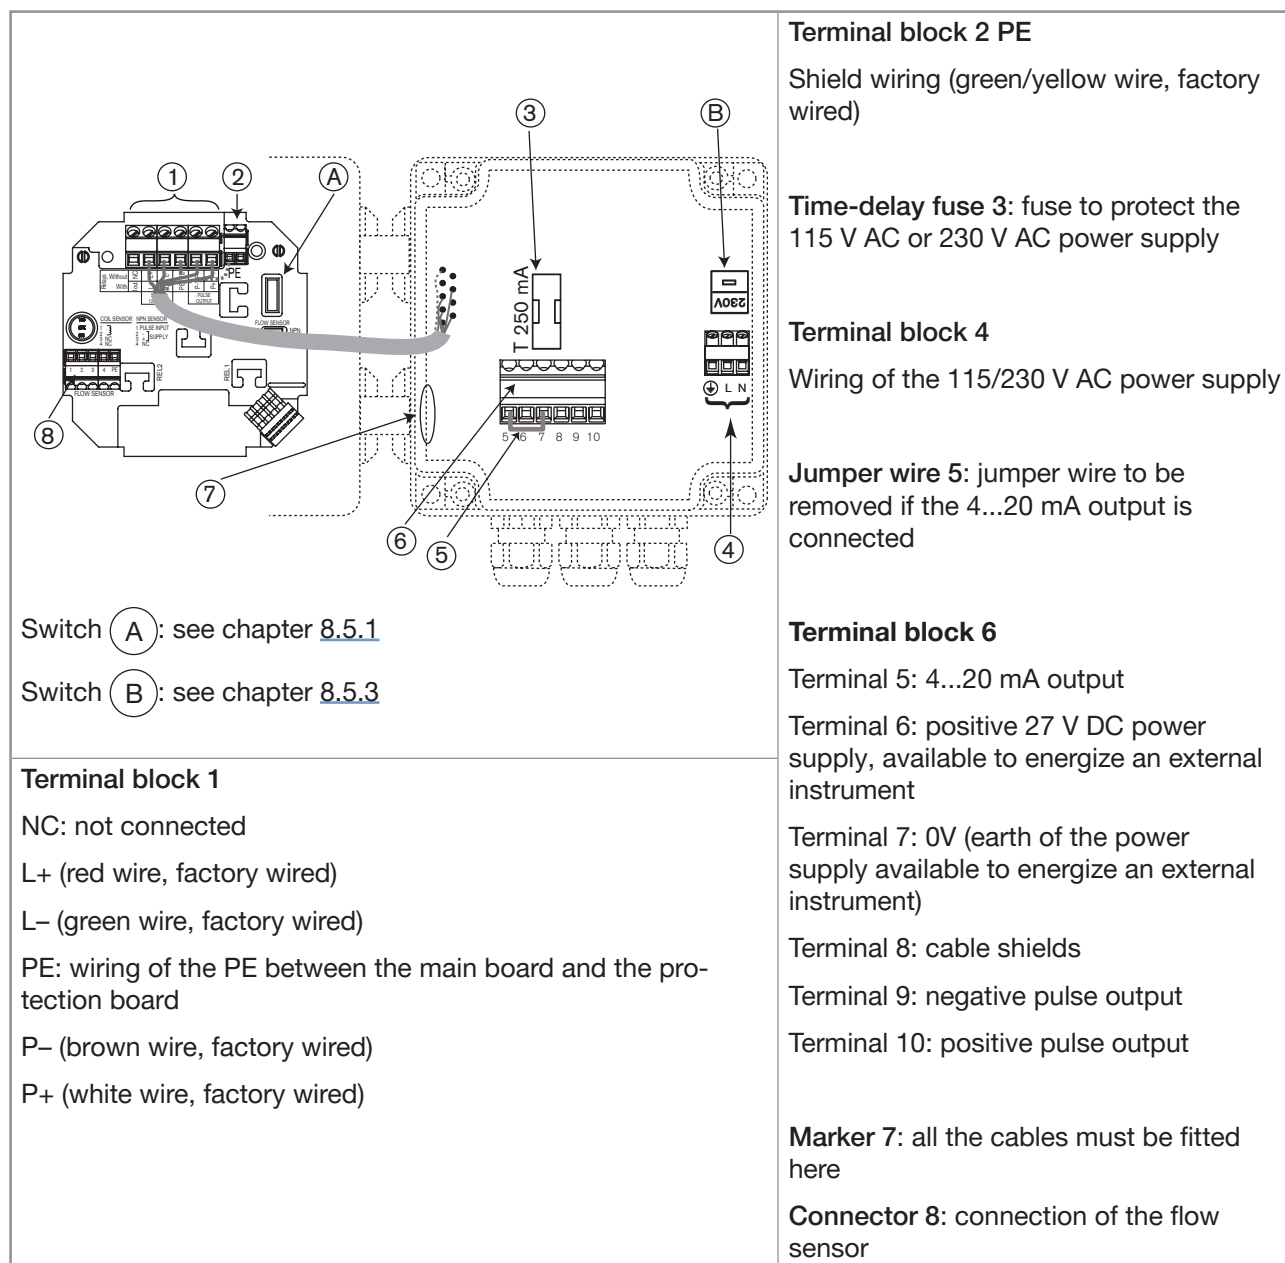
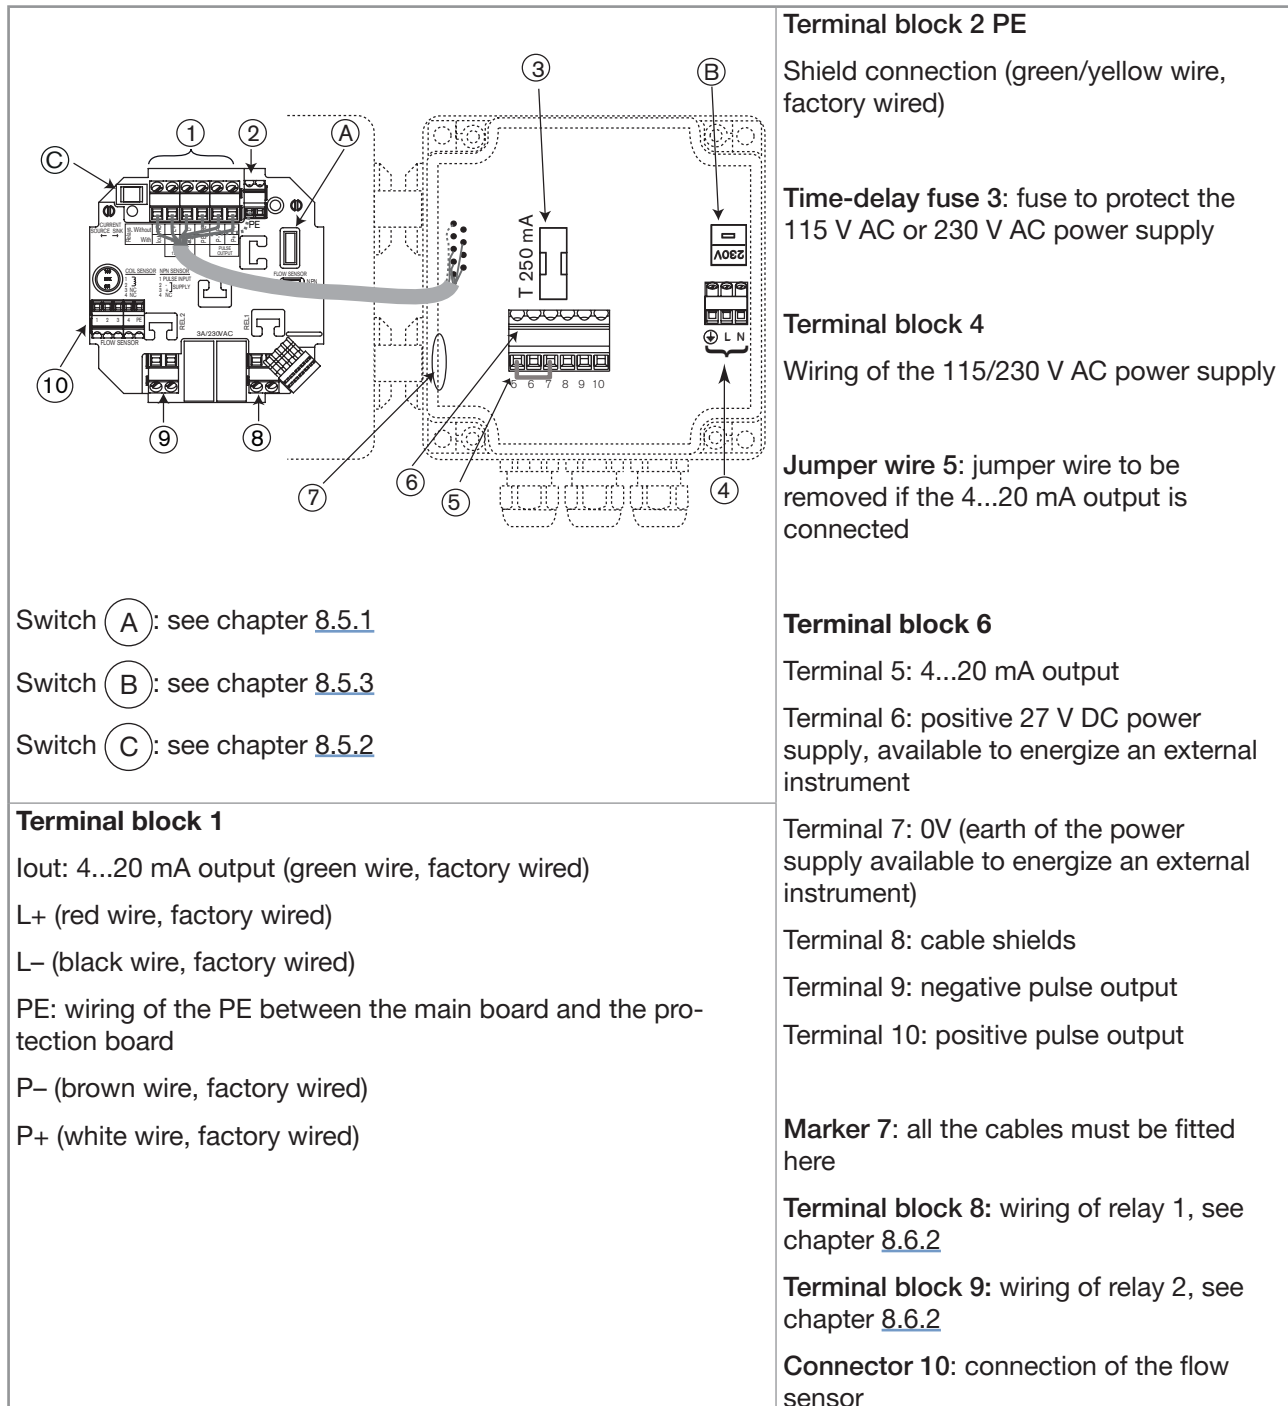

Fig. 46: Terminal assignment of a wall-mounted version, 115/230 V AC, without relays
Fig. 50: Terminal assignment of a wall-mounted version, 115/230 V AC, with relays
- Remove the two terminal blocks (marked [4] and [6] in Fig. 46, chapter 8.8.2 and Fig. 50, chapter 8.8.3) from the housing.
- Insert the two terminal blocks (marked [4] and [6] in Fig. 46 chapter 8.8.2 and Fig. 50 chapter 8.8.3) into their original position.